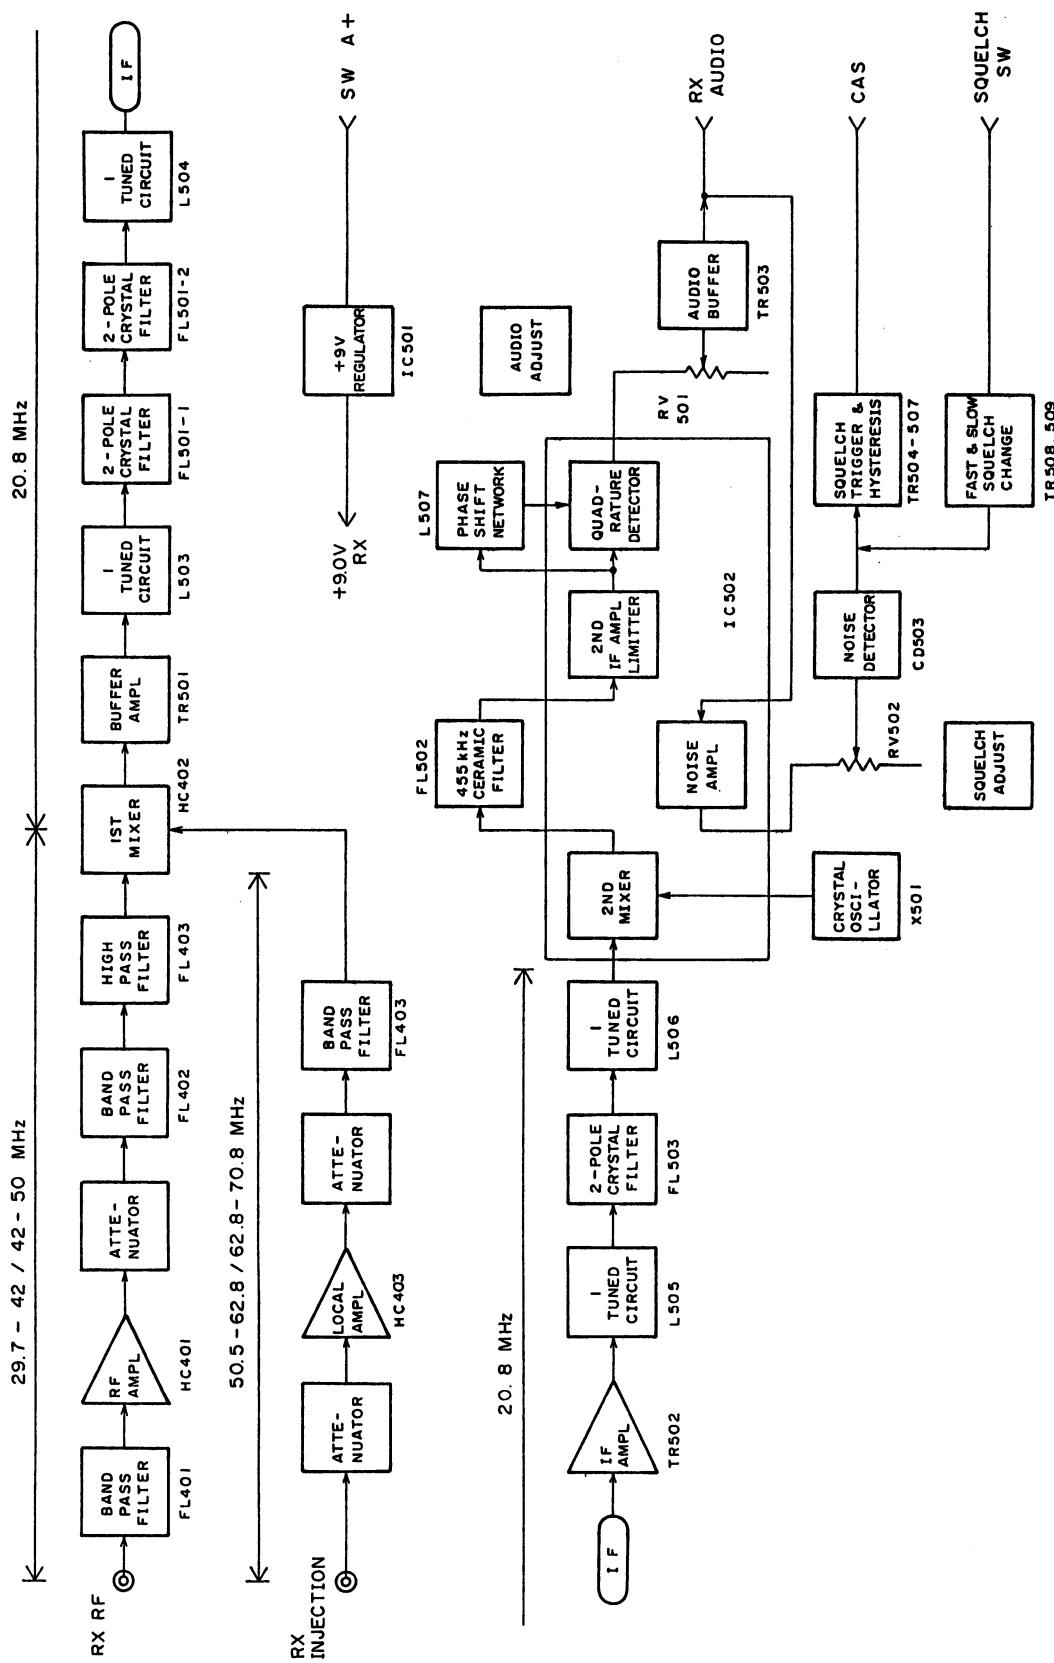

Figure 2 - Block Diagram
All of the receiver circuitry except the synthesizer, audio preamp and audio PA are mounted on the receiver (RX) board (refer to Figure 2 - Block Diagram). The receiver consists of: